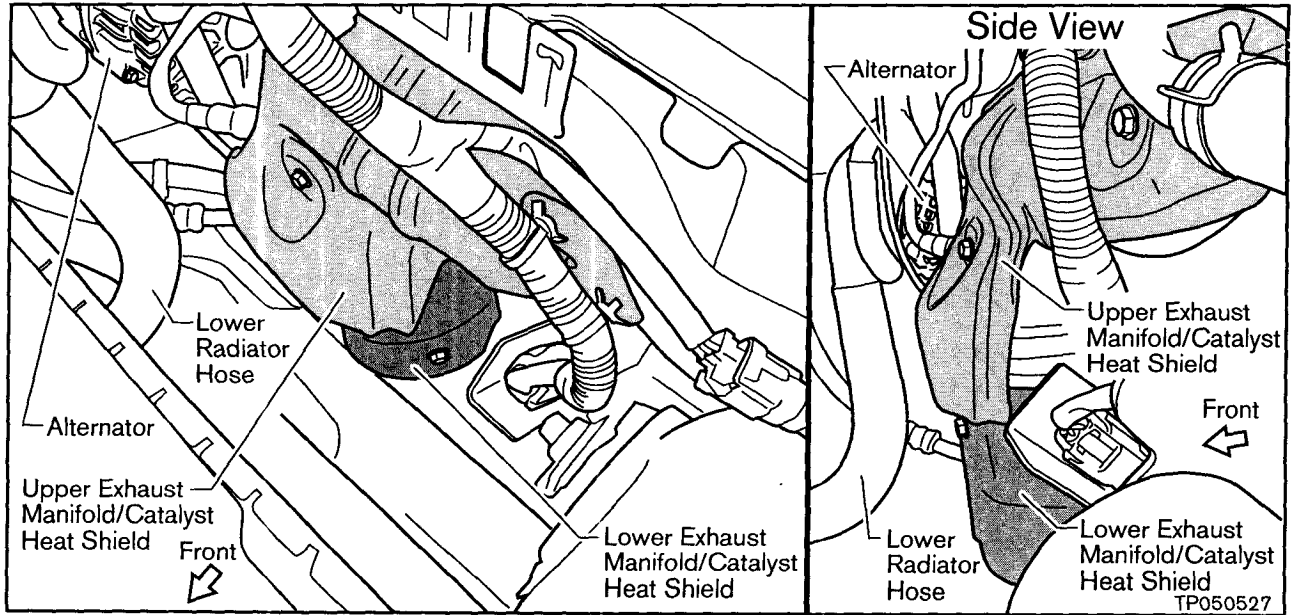

Figure 16
14. Remove the Bolts that hold the Upper and Lower Exhaust Manifold/Catalyst Heat Shields (see Figure 16). Then, remove the shields.